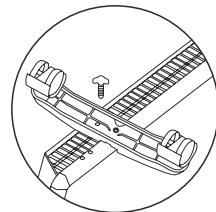

Fig. 4
**Leg mounting of the convector (Fig. 4)**